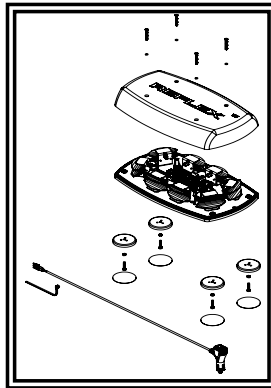

Figure 5
3. Place an internal star washer onto the enclosed M5 x 20 hex bolt and insert the hex bolt through the hole in the cup magnet as shown. Hold the magnet/ bolt assembly with the bolt extended through the magnet as far as possible and feed the hex nut and the shank of the bolt through one of the openings at the 4 corners of the underside of the minibar base. Maintain tension on the bolt/nut by holding onto the cup magnet while tightening the assembly. Repeat this process for all four corners. See Figure 5.